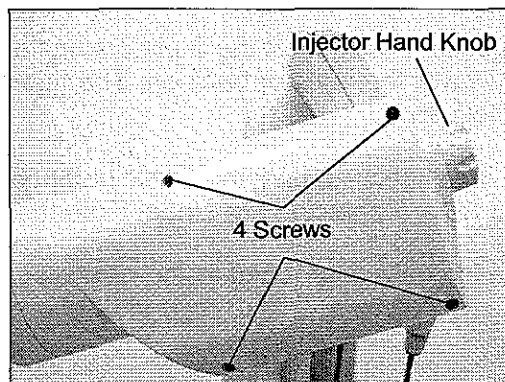

Figure 4-7a: Removing the Rear Enclosure
- a. Pull off the Injector Hand Knob at the rear of the Injector Head (see Figure 4-7a).
- b. Remove four Phillips screws from the Injector Head's Rear Enclosure (see Figure 4-7a).